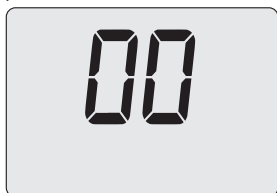

Figure 7.5
- Press 17 (Figure 7.2) to show the value of parameter P06 on the LCD display (Figure 7.5).